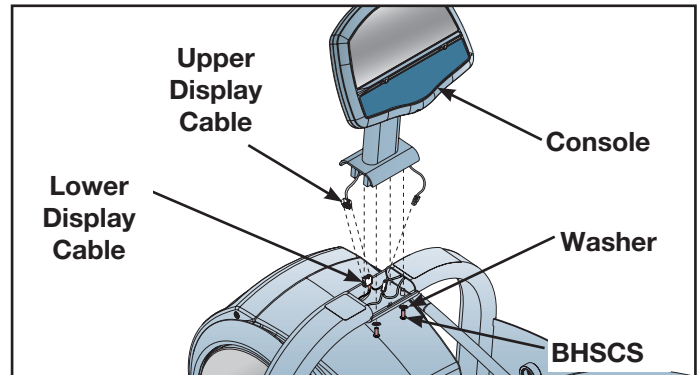

Figure 1
- A. Using a 7/32" Allen wrench, remove the four .375-16 x 1.50 BHCS (Button Head Cap Screw) and four washers. See Figure 1.